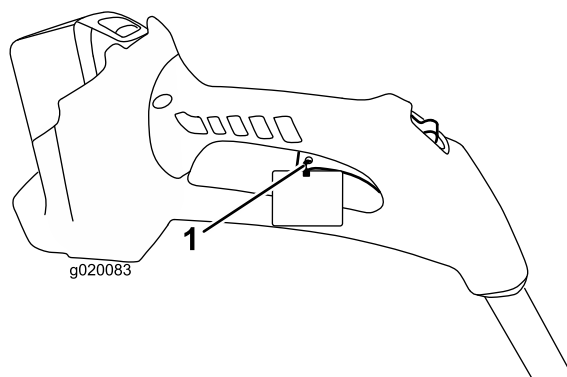

Figure 4
3. Cut the zip-tie and remove it from the trigger handle (Figure 4).